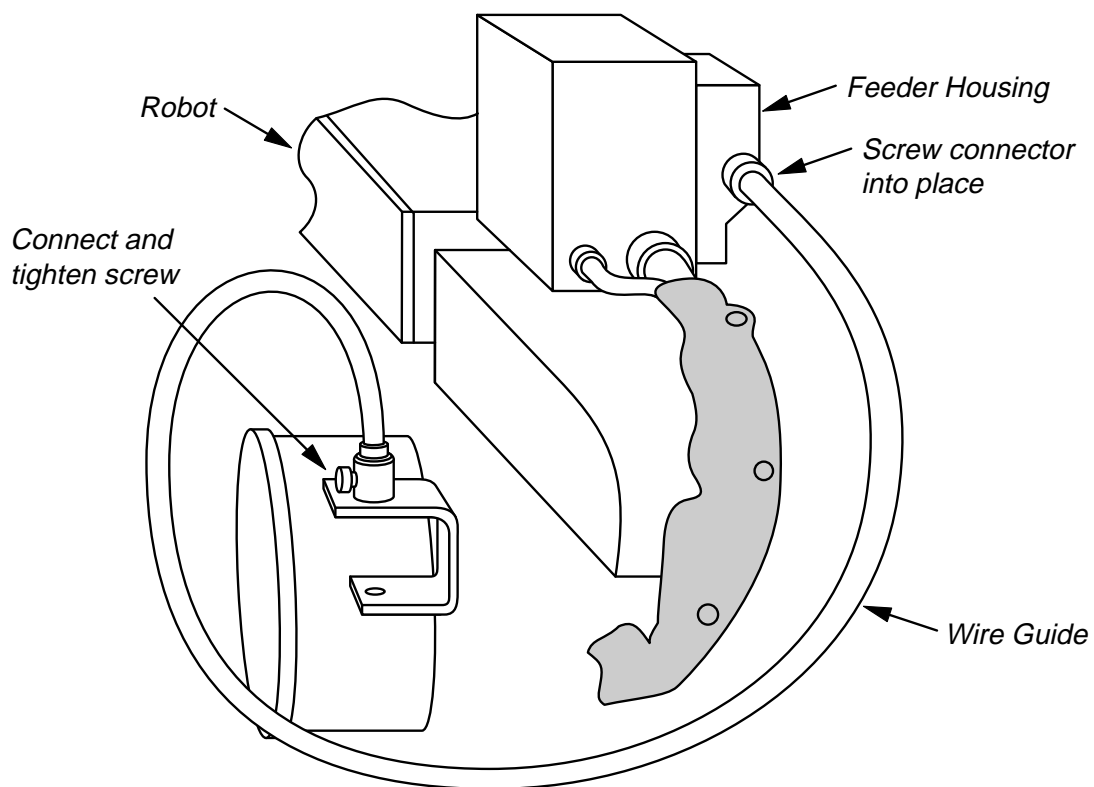

Figure 4-2 *Installing the Wire Guide*
2. Screw the connector end of the wire guide into the wire feeder housing (see Figure 4-2) by turning connector clockwise until it is hand-tight.